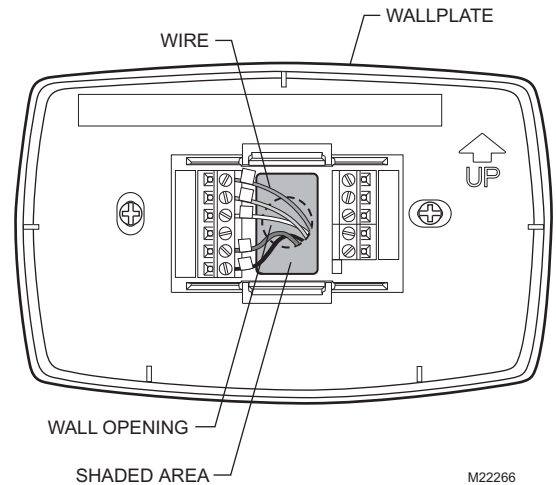

Fig. 10. Restrict wires to shaded area of wire hole.
4. Push excess wire back into the wall opening and restrict wires to the shaded area. See Fig. 10.